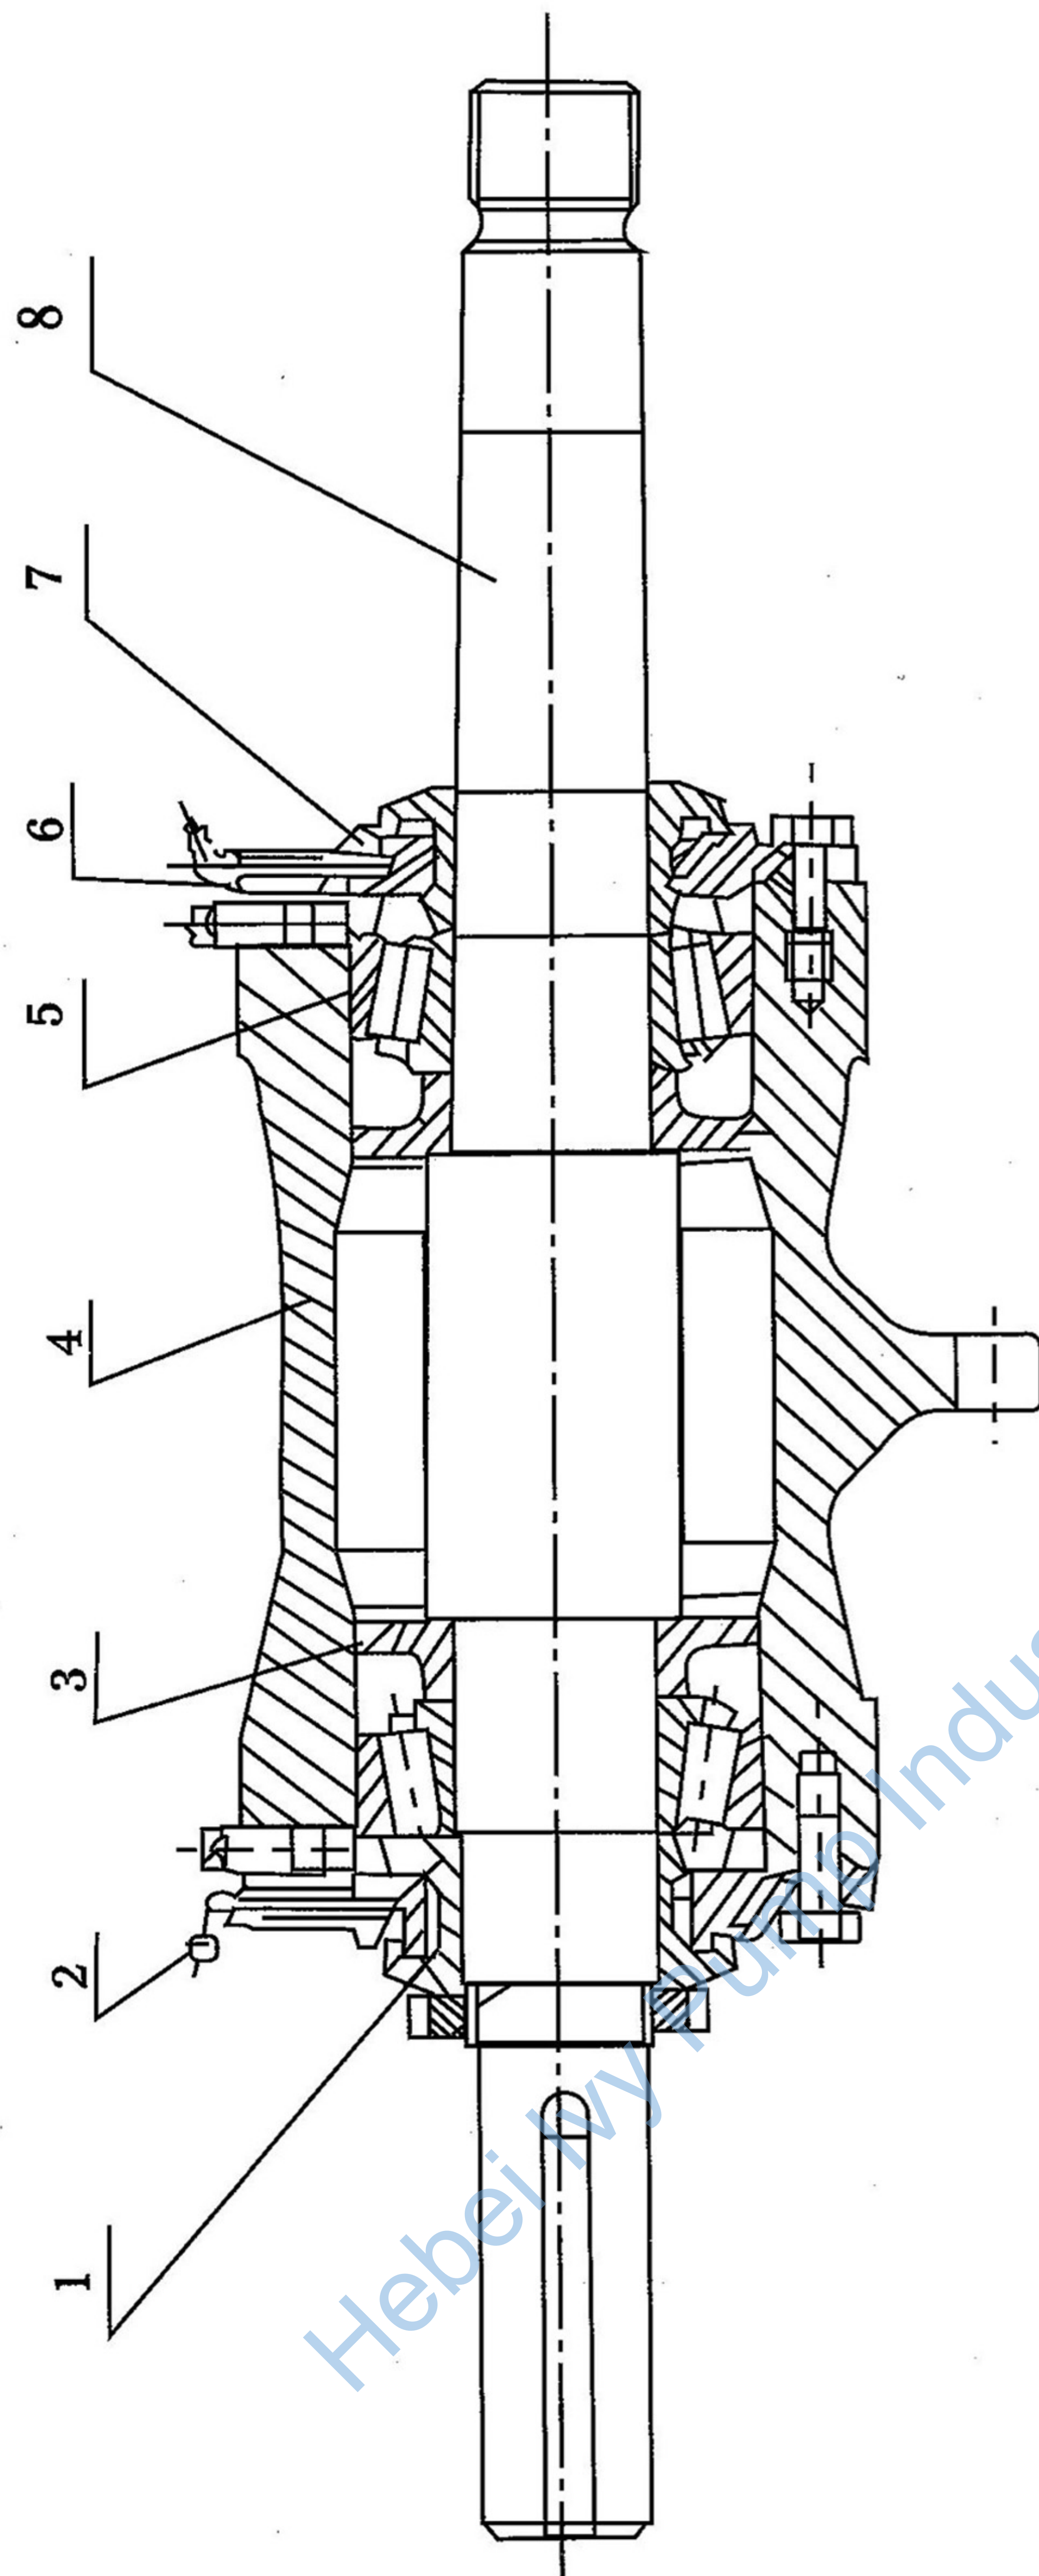

Figure 5: Structural Diagram of Bearing Assemblies B, C, D, E, F, and G
1. Bearing Assembly (See Figures 5 and 6 of the Bearing Assembly Structural Diagrams)